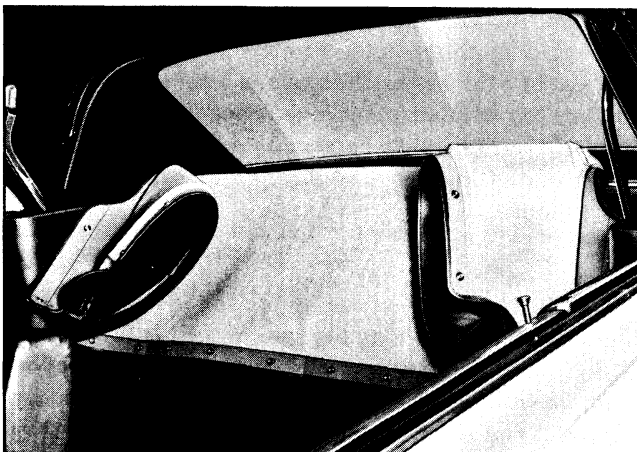

Fig. 22-2 Top Boot Turned Over Seat Back
1. Stop the car. If top boot has been stored in its retainer behind rear seat, turn boot over seat back (Fig. 22-2). It is not necessary to lower rear window or rear quarter windows before lowering top.
1. Stop the car. Disengage all top boot snap fasteners from studs, turn boot over seat back and fold ends of boot toward center. If thoroughly dry, top boot may be removed from retainer, folded and placed in protective case (Fig. 22-2).